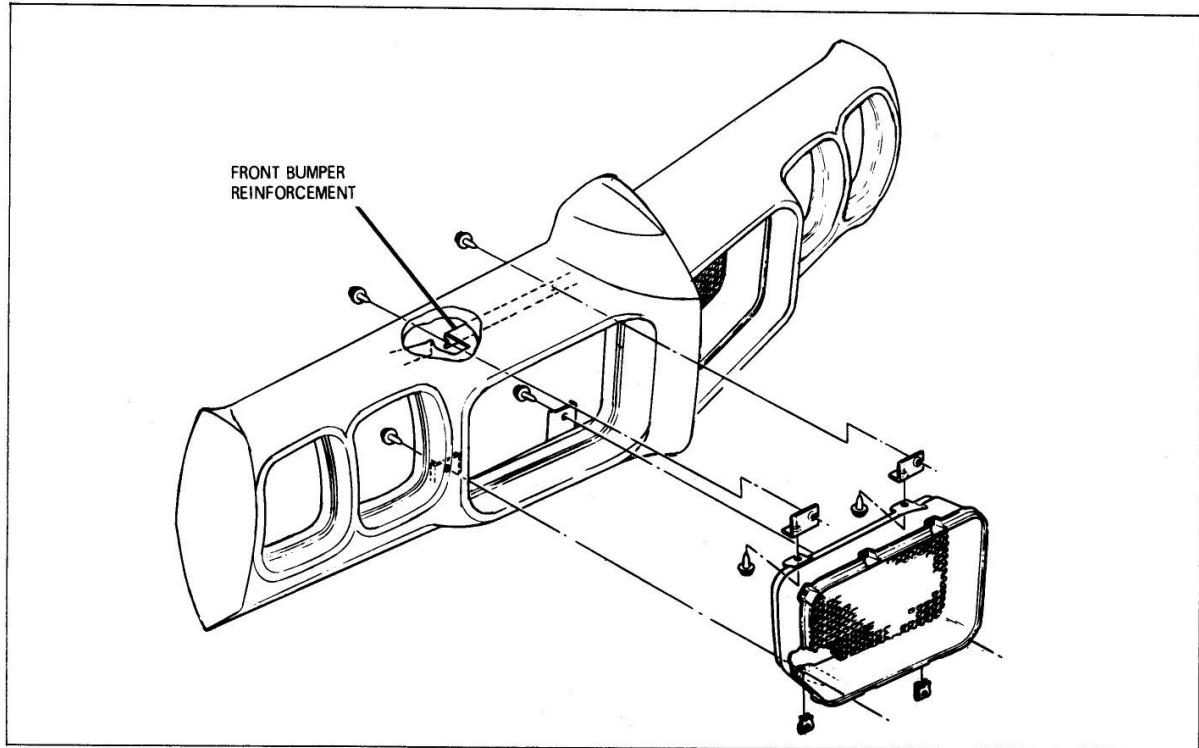

Fig. 14-10 G.T.O. Grille
10. Remove grille shells (Fig. 14-10)